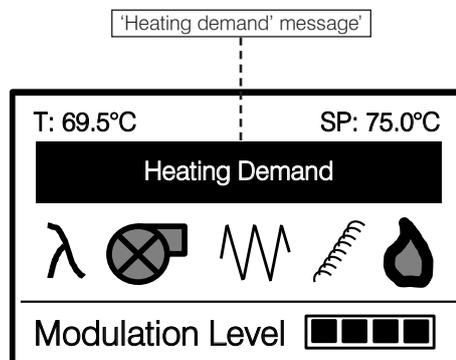

Figure 12: LCD 'heating demand' message
- First, ensure that the electrical supply to the boiler is switched on and that the electrical isolator switch is set to ON (I). Refer to Section 5.
- Then check that the heating system controls (programmer and room thermostat) are operating and are calling for heat. This will be indicated by the Grant logo (on the front of the boiler) being illuminated and the 'Heating Demand' message being displayed on the boiler control panel LCD screen. Refer to Figure 12.
- Set the heating (CH) and hot water (HW) functions on your programmer to 'Timed'. The boiler will now operate during the 'ON' periods set on the programmer.